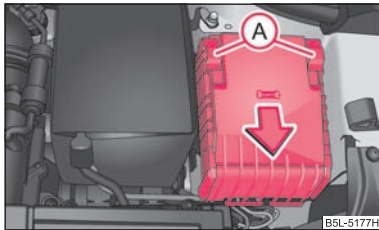

Fig. 190 Fuse cover in engine compartment
- Move the circlips **A** ⇒ fig. 190 as far as the stop, the symbol **Ⓕ** appears behind the circlip and remove the cover.